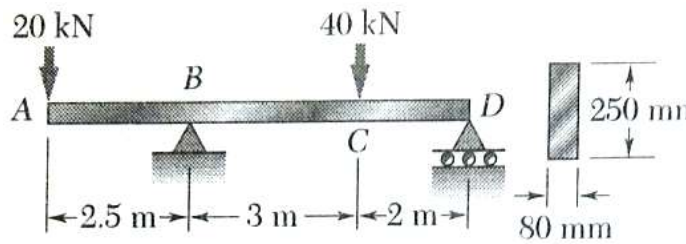

Fig.4
6. Draw the Shear Force and Bending Moment Diagrams for the timber beam and loading shown in Fig.4. Also determine the maximum normal stress due to bending.